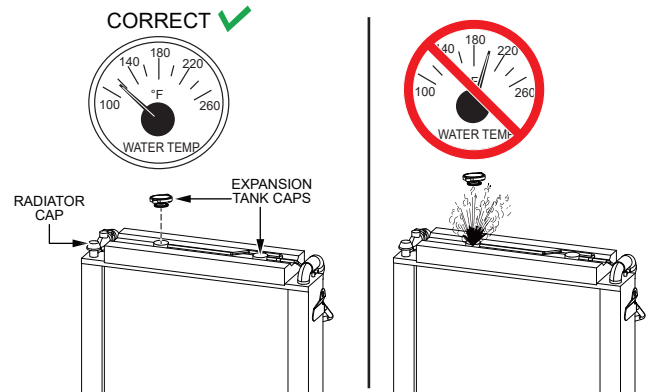

Figure 70. Radiator And Expansion Tank Caps
1. Remove the **radiator pressure cap** (Figure 70) and both **expansion tank caps** only if the coolant temperature is below 120°F (50°C).